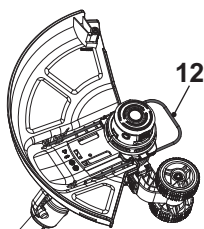

Fig. 14, storage position
2. Push the plant protector (12) in for transport and storage (Fig. 14).